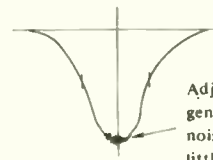

Fig. 9
- (3) At the article 1, adjust T104 and T108, so that the wave form will be as in Fig. 9. As T108 contains ceramic filter of 455kHz sometimes the center of the marker will not come on that of the wave form. In this case, neglect the marker.
- (4) At the article 2 and 3, at the time of the first adjustment, make input power at 74dB and as the adjustment goes on, make it the minimum and necessary input power (50dB).